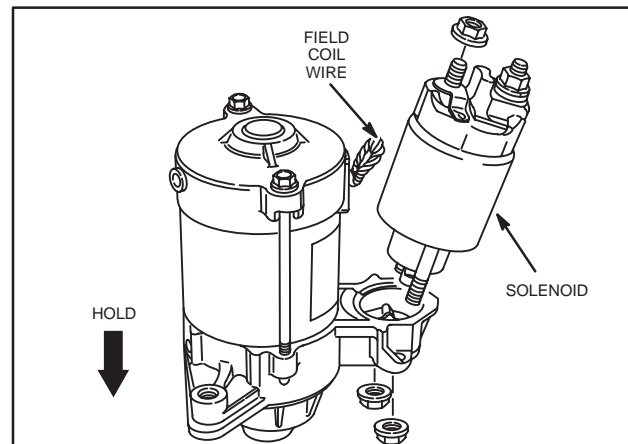

Fig. 50 – Removing Solenoid
1. Remove nut and field coil wire from stud terminal, Fig. 50.